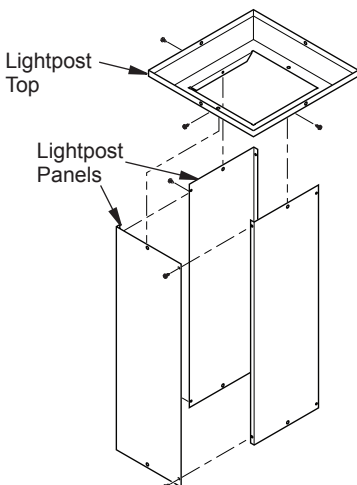

Figure 5 - Lightpost Panels and Top Assembly
1. Locate 4 lightpost panels that are packaged together. Assemble 3 of the pieces with 4 screws (H) as shown in Figure 5.
2. Place lightpost top over panel assembly aligning screw holes. Attach with 3 screws (H) as shown in Figure 5.